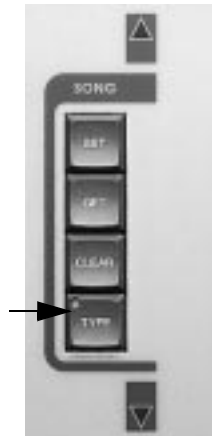
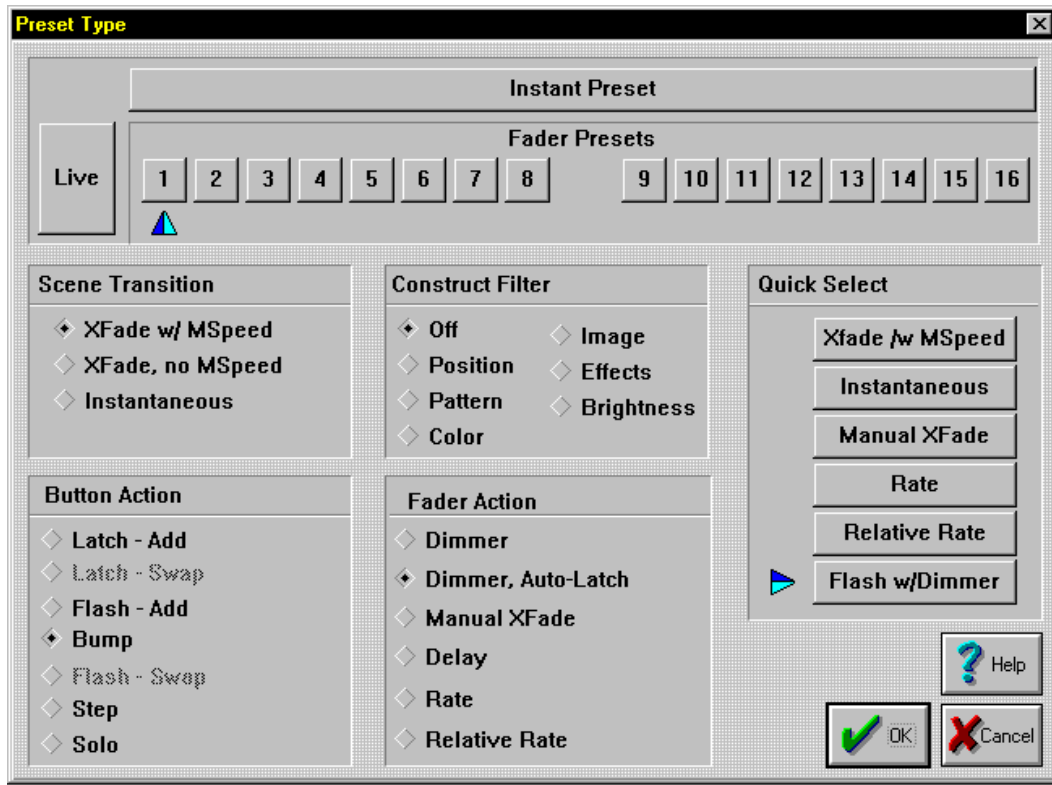

Figure 7.12. SONG Group
Figure 7.13. Preset Type Dialogue Box
1. Press the <TYPE> key in the SONG group (Figure 7.12). This will bring up the **Preset Type** dialogue box (Figure 7.13). Alternately, select **Change Types...** from the **Song** drop-down menu. The dialogue box indicates the 18 outputs and configuration parameters.